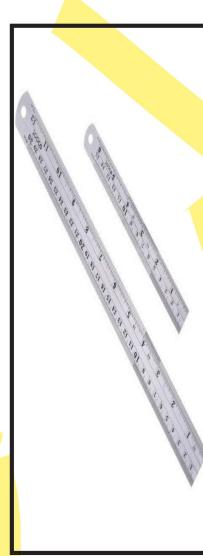

Figure 2.7 Steel Rule
2.2.1.7 Steel Rule: The steel rule is a basic measuring tool used to measure along straight lengths as shown in figure 2.7. It is also used to mark straight lines when used along with a scribe.
2.2.1.8 Dial Indicator: This tool helps to magnified and read the very fine linear movement. It is made up of a stylus and a pointer on dial as shown in figure 2.7. The accuracy of dial indicator can be up to three decimal points. It is usually used for calibration of machine.